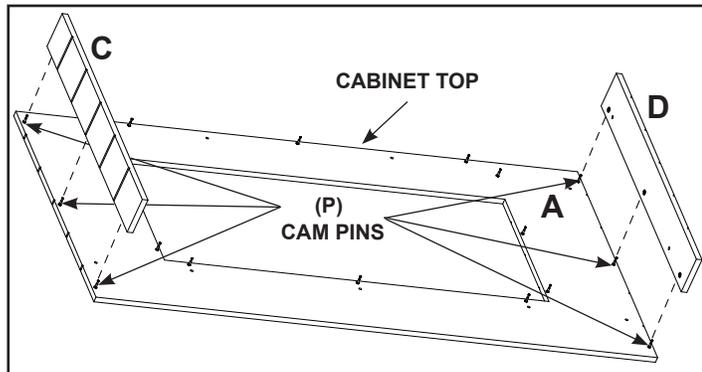

Figure 6
- Align parts “C” and “D” onto the three (3) Cam Pins installed on each side of part “A”. See Figure 6.